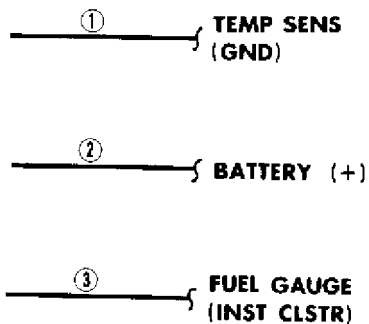

Fig. 1: Identifying Tie-Off Symbols
6) The symbols shown in Fig. 1 are called tie-offs. The first tie-off shown indicates that the circuit goes to the temperature sensor, and is also a ground circuit.